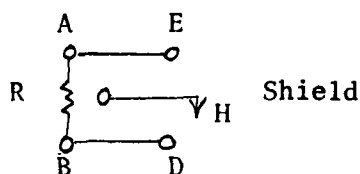

Figure 3.7-Programming Voltage
- a.) Connect a precision known resistor R (any value between 50K-250K) to the pins AE and BD of the sensor A input plug J1 (amphenol type 126-217 or equivalent) in place of the sensor as shown in Fig. 3.7, and turn the sensor selector switch on the front panel to Manual A position.